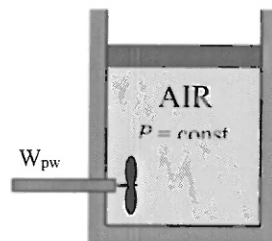

Figure 3
An isolated cylinder with a volume of  $0.1 \text{ m}^3$  is filled with air at  $25^\circ\text{C}$  such that the air receives no heat from the surroundings, see figure 3. A paddle wheel inserted into the cylinder is used to stir the air thereby doing work of  $28 \text{ kJ}$  on the air at a constant pressure of  $400 \text{ kPa}$ . If the air does  $13 \text{ kJ}$  of work on its surroundings in expansion, determine the final temperature. (20)